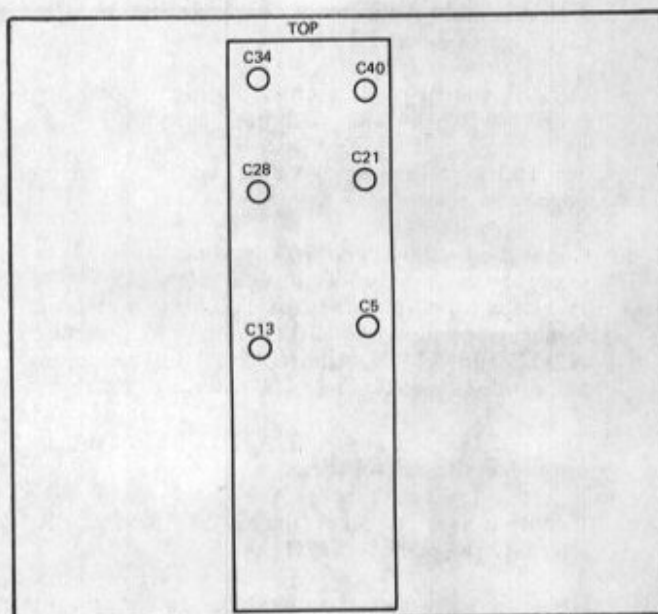
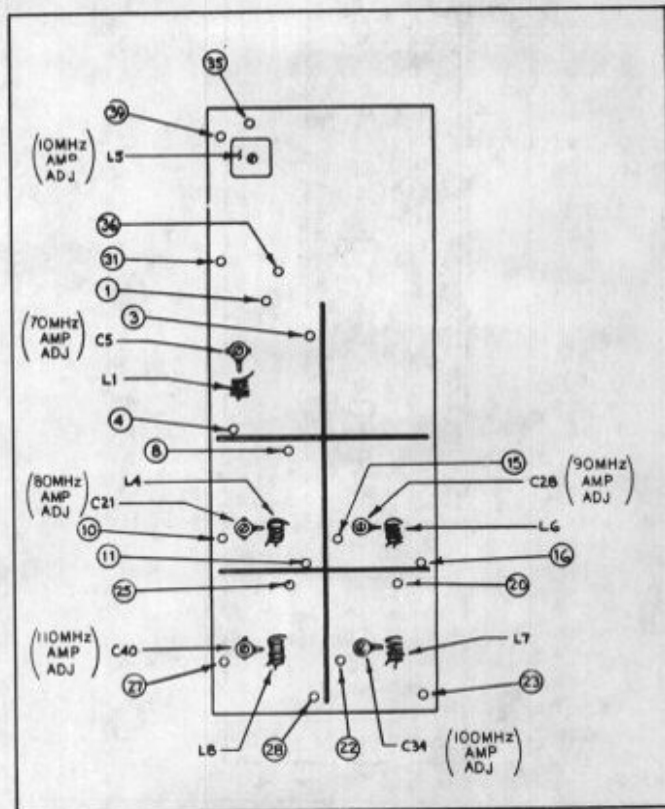

Figure 2-6. Trimmer Access Hole Locations, A11
Figure 2-7. Trimmer Locations, Buffer Amplifier Assembly, A11
- a. Set the SWEEP switch to the OFF position and withdraw A11 assembly (See Figure 2-6 and Figure 2-7).